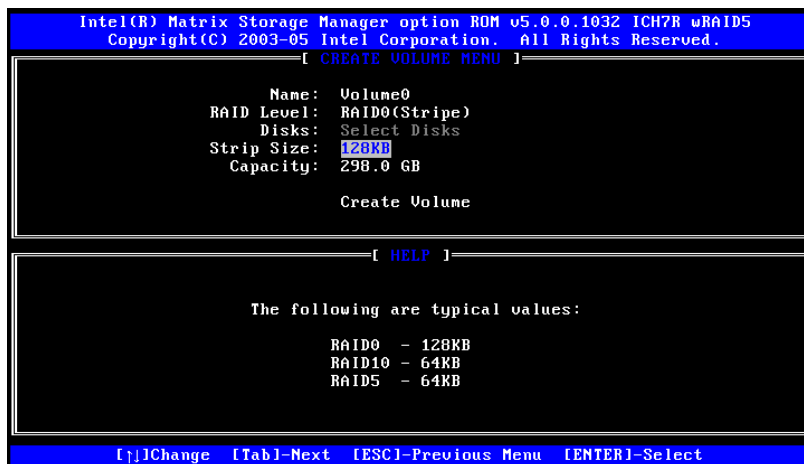

Figure F-4: Select the Stripe Size
**Step 4: Select the Stripe Size.** Select a stripe size from the list. See **Figure F-4**.